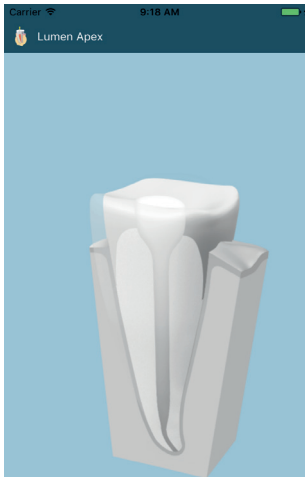

Fig. 2
2. After the program *Lumen Apex* is installed the icon  *Lumen Apex* appears on the screen. Click on the icon and the crosssectional view of dental root canal model (white-black) appears on the screen (Fig. 2).